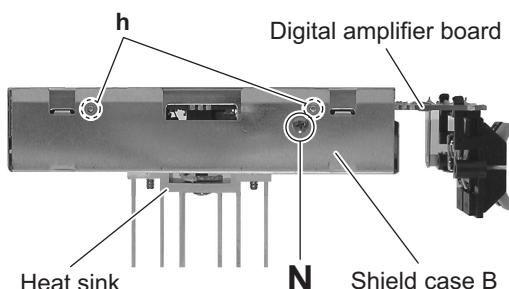

Fig.14
- (2) From the top and bottom sides of the digital amplifier board assembly, remove the three screws **N**. (See Figs.14 and 15.)
- (3) Release the joints (**h**, **j**, **k**, **m**) and remove the shield case B with the heat sink in the direction of the arrow. (See Figs.14 to 17.)